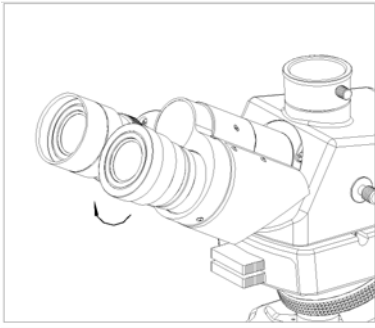

Fig. 22
- (1) When wearing glasses, fold the eye cups inward to prevent damage to eyeglasses.
- (2) When not wearing glasses, fold out the eye cups to prevent stray light. (See Fig. 22)